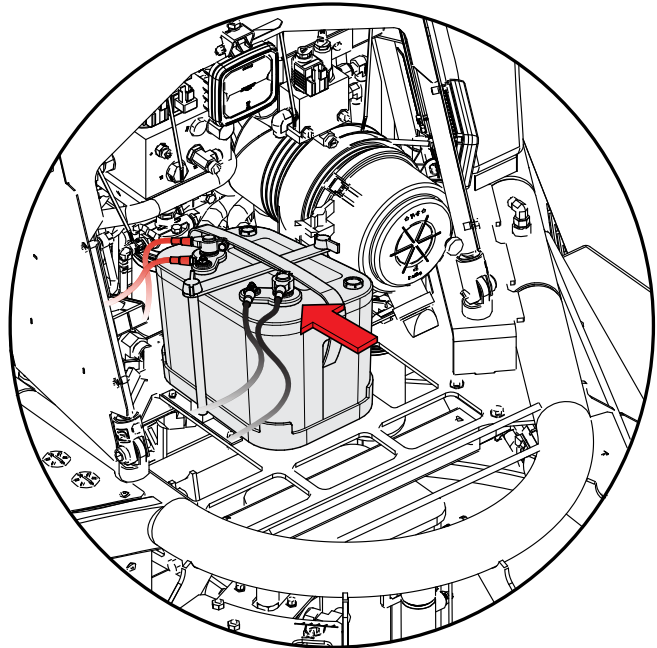

Figure 2. Battery Disconnection
1. Remove and set aside the **LEFT** grill guard to gain access to the battery (Figure 2).
2. Disconnect the two negative (**BLACK**) cables from the negative terminal on the battery. See Figure 2.